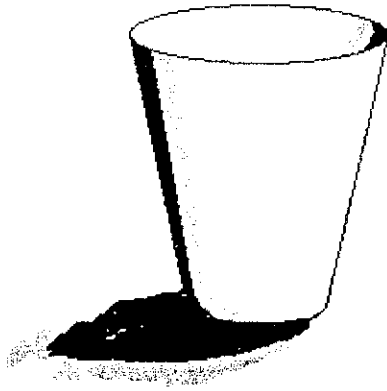

FIGURE 8
7. Figure 8 shows a cutlery case that has been made from sheet metal.